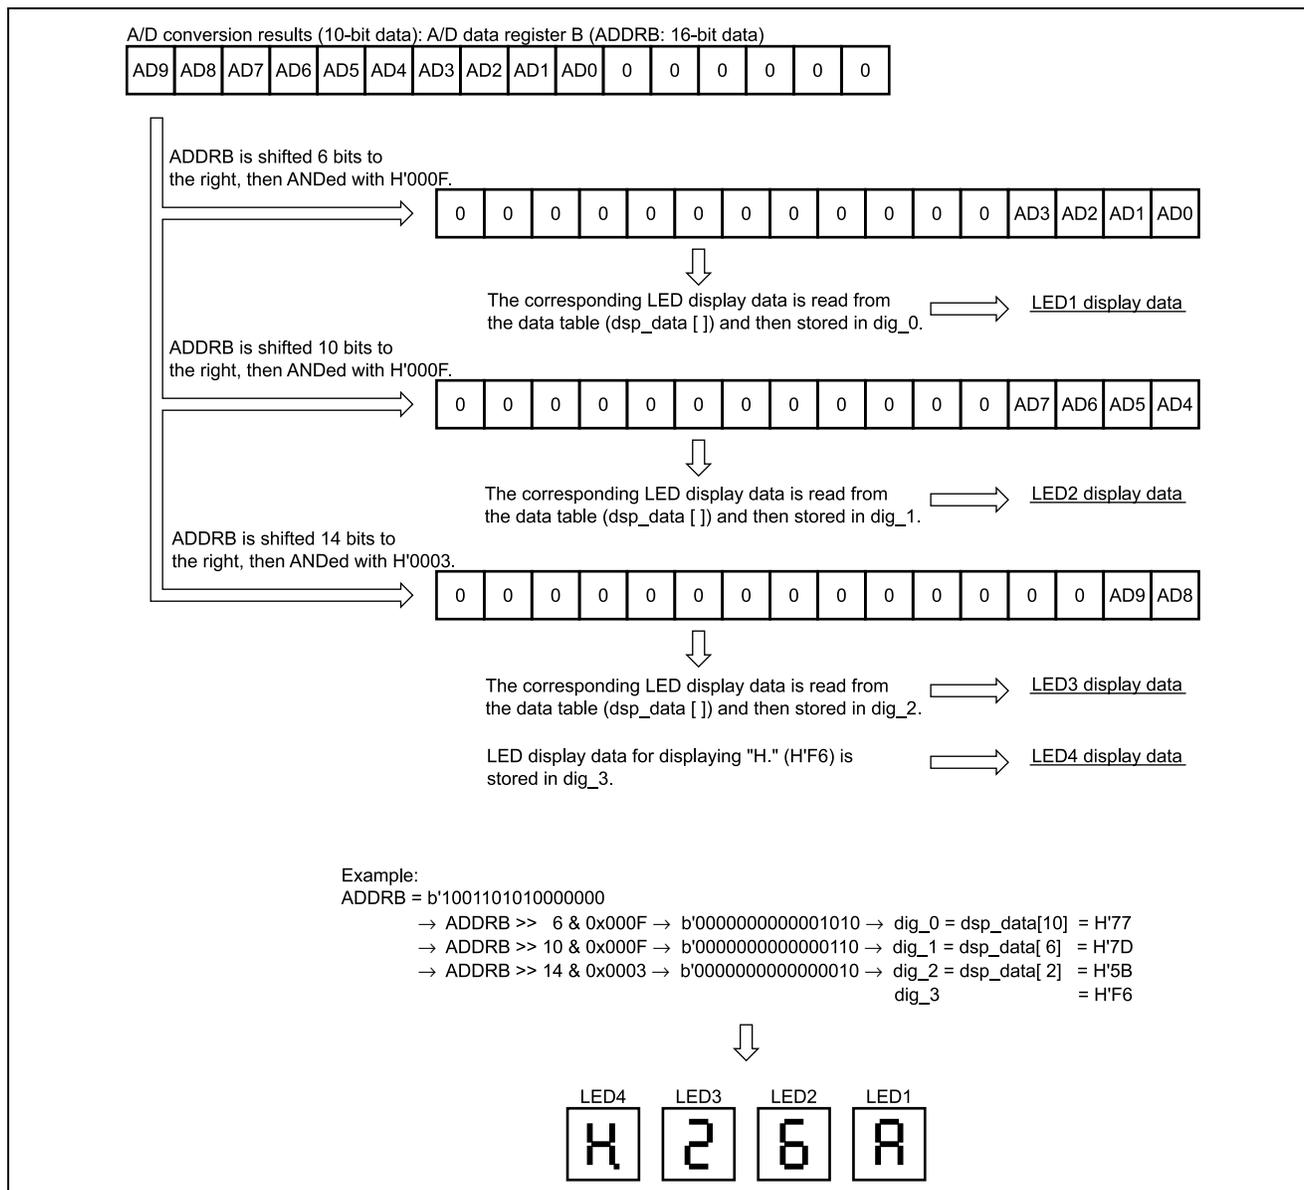

Figure 1.4 How A/D Conversion Results are Displayed on the LEDs
9. In this sample task, the results of A/D conversion are displayed in hexadecimal format (H'3FF to H'000) on three of the 7-segment LEDs. Figure 1.4 shows how this is done.